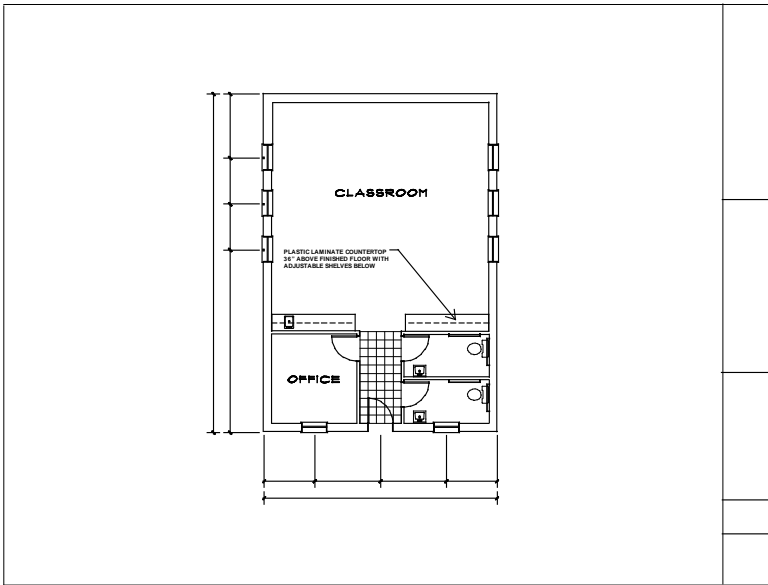

Figure 4.31: The drawing with title block
23. Press (O) to toggle ortho mode on.
24. Move the cursor upwards and click to place the line in a few different locations to section off the title block, as in Figure 4.31.